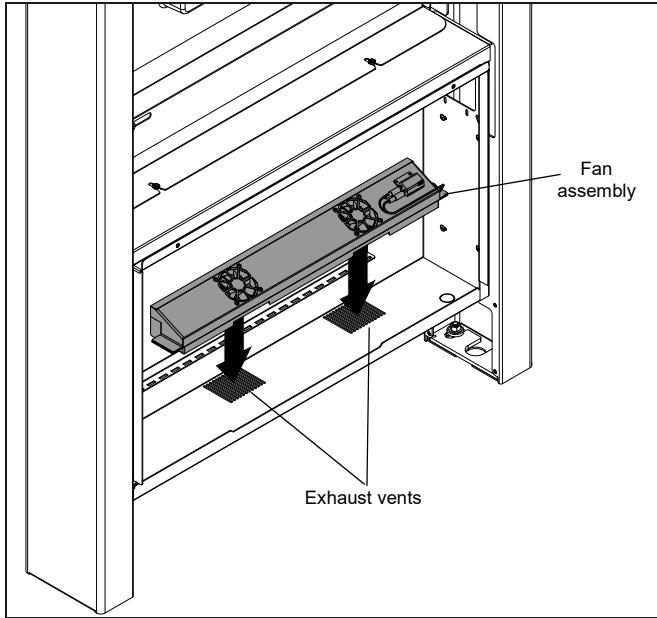

Figure 13
- Attach assembled fan assembly/filter bracket to the bottom of the enclosed storage area. (See Figure 13)